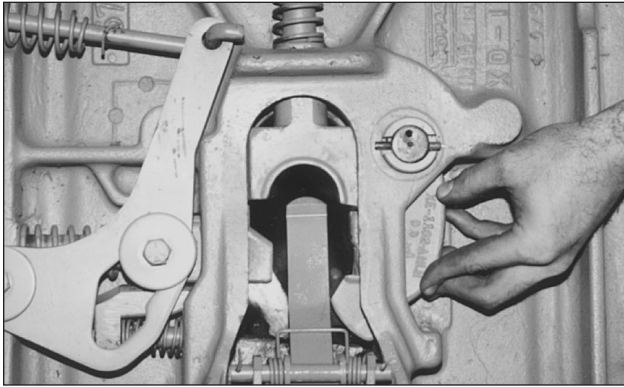

FIGURE 14
4. Check adjustment. When properly adjusted, the center of the hinged lock (8B) must contact the lock guard when attempting to swing it closed (*see Figure 14*). Adjust accordingly.